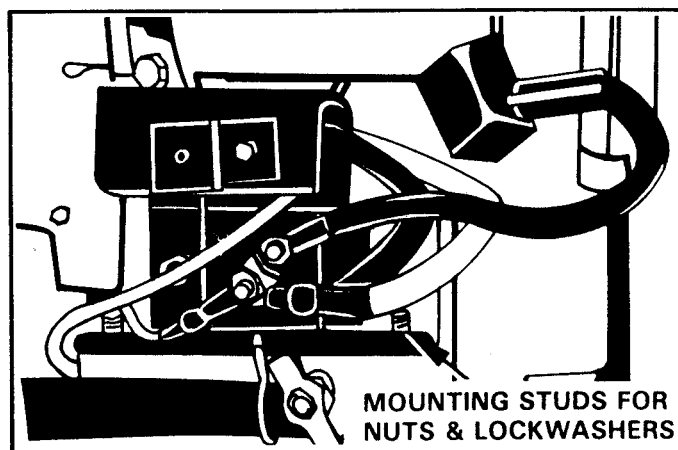

FIGURE 57
4. Remove nuts and lockwashers at the right side engine base. Install Bracket-Solenoid Assembly (1,2,3,4,9). Do not reinstall nuts and lockwashers at this point. See Figure 57.